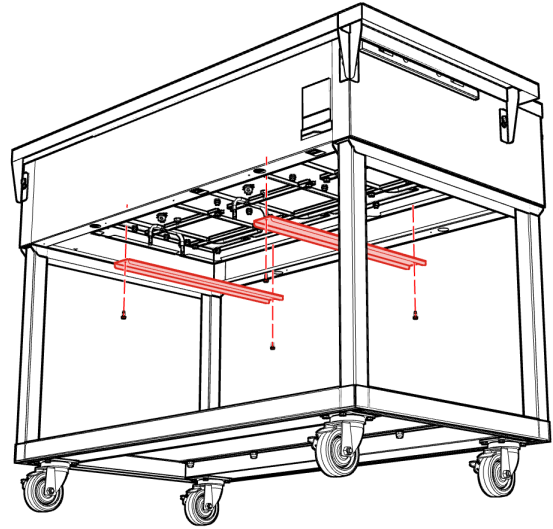

Fig. 13
2. For EACH bracket, remove two (2) M4.8 × 13 mm hex head screws fastening insulation brackets to unit (Fig. 13). Drop brackets and insulation out of unit.